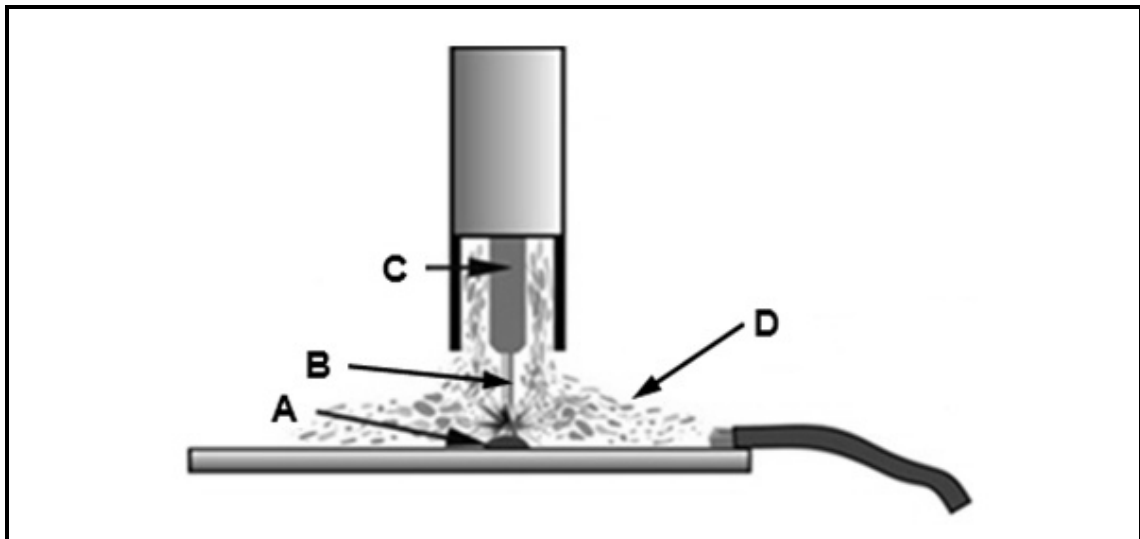

FIGURE 6.4
6.4 FIGURE 6.4 below shows the MIG/MAGS welding process. Label **A–D**.